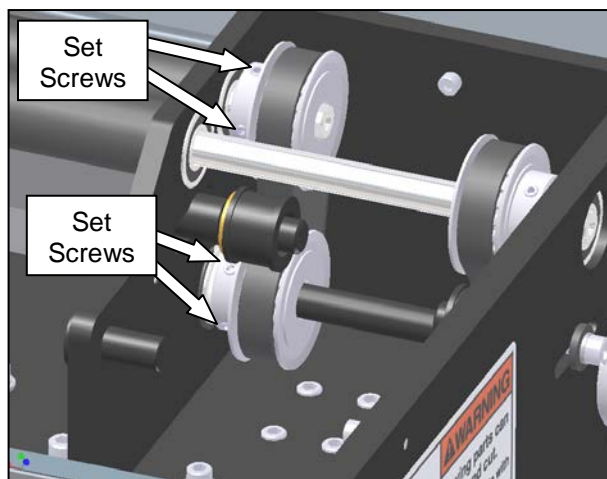

Figure 3-169. Film Feed Pulley Set Screws
3. Loosen the four set screws on the two pulleys shown in Figure 3-169. Slide the pulleys to the left until the top pulley on the film feed drive roller is completely removed.